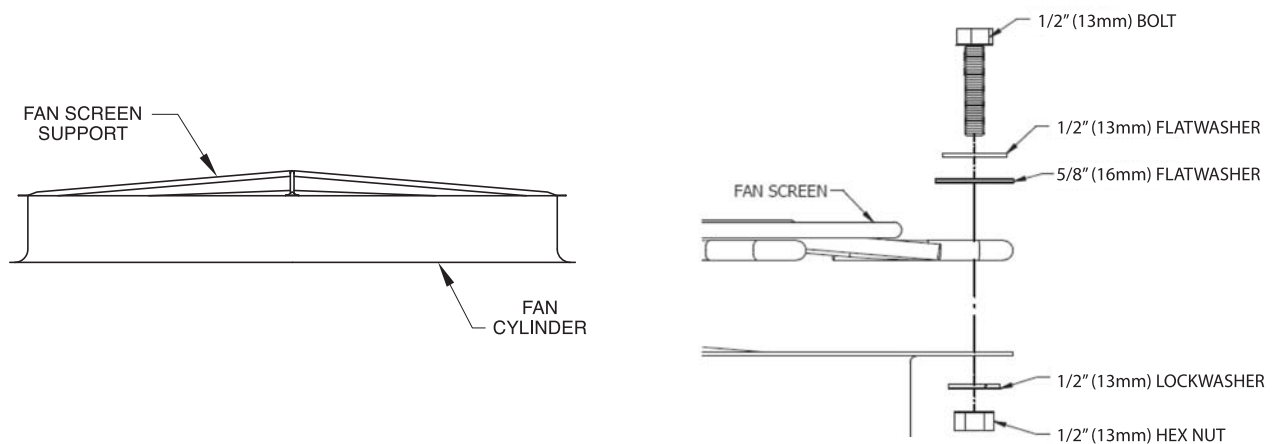

Figure 23 - Fan Screen Support & Fan Screen installation
1. Set the fan screen support across the top of the fan cylinder as shown in Figure 23.
4. At each hole, attach the fan screen to the fan cylinder as shown in Figure 23. At the four points where the fan screen support meets the cylinder, bolt the support to the cylinder together with the fan screen.